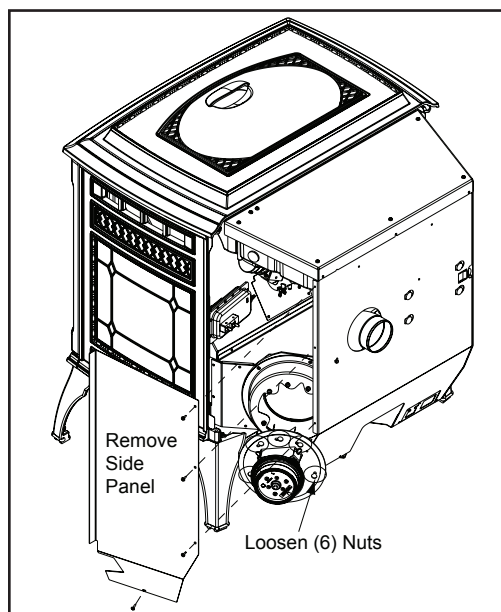

Figure 30.4
2. Remove the right side panel by removing the 4 screws using a Phillips head screw driver. **Figure 30.4.**
5. Using an 11/32 socket or nut driver, loosen the (6) 8x32 nuts securing the motor and impeller to the housing. Rotate the blower and remove from housing.